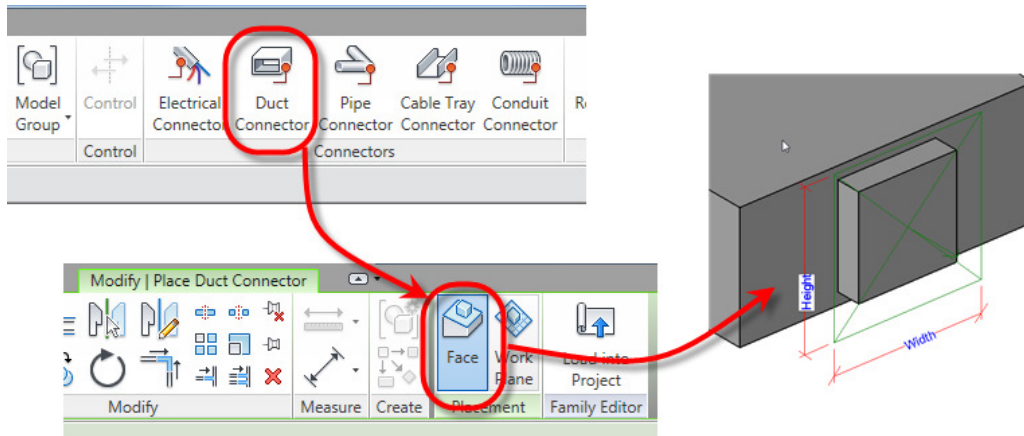

Figure 43. Creating the Outlet Duct Connector.
2. From the *Home* ribbon, click **Duct Connector**, then click **Face** (see Figure 43).
3. Place the Duct Connector by selecting the face of the Outlet Duct Sleeve. Your screen should look similar to Figure 43.